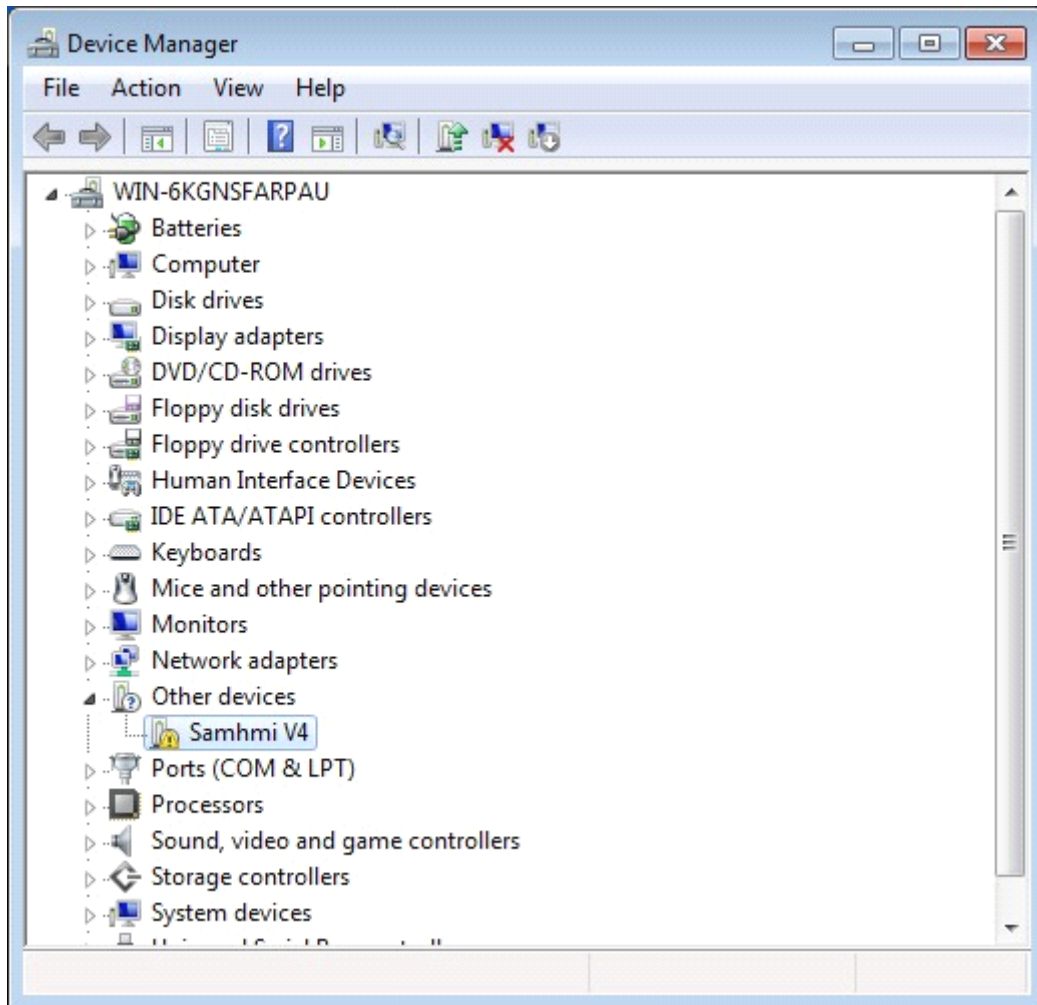

Figure 2-21: Device manager page of VISTA
- Select “Ask me later”, and then open the device manager to find the touch screen equipment. Right click on the equipment, and choose to update the driver. See Figure 2-21.